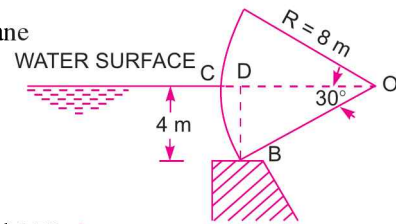

Fig. 3.33
**Problem 3.26** Calculate the horizontal and vertical components of the water pressure exerted on a tainter gate of radius 8 m as shown in Fig. 3.33. Take width of gate unity.